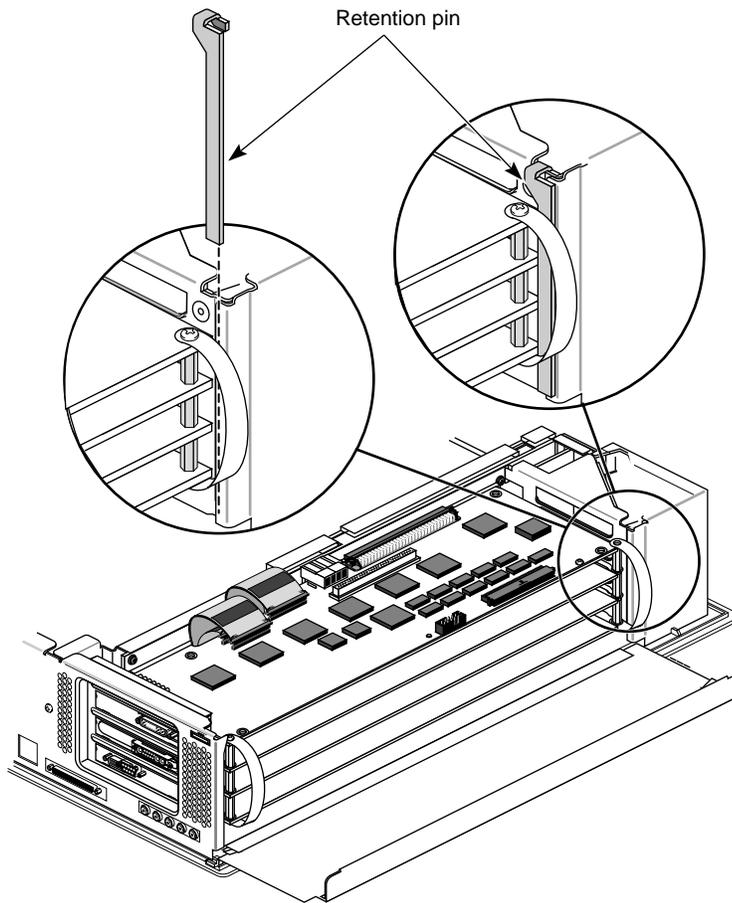

Figure 2-31 Inserting the Retaining Pin
4. Hang the retention pin so that it sits in front of the board set. The retention pin prevents the board set from moving away from the connectors. See Figure 2-31.